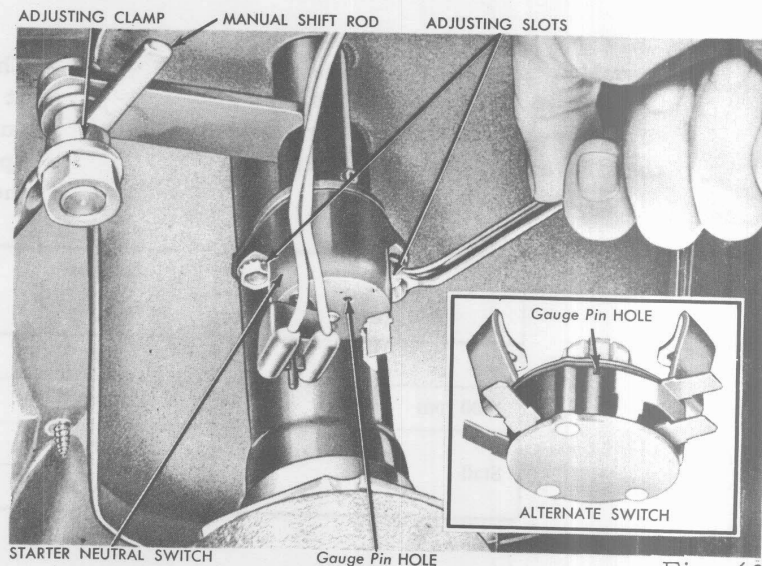

Fig. 63
- ⊗ With the engine not operating, loosen the clamp at the shift lever so that the shift rod is free to slide in the clamp (Fig. 63).
- ⊗ Loosen the neutral switch to steering column attaching screws to adjust the switch. Move the selector lever to the Neutral detent position. Position the switch in the elongated mounting holes so that a .060" gauge pin can be installed to the switch housing and into the switch plate (Fig. 63). Tighten the attaching screws with a gauge pin in place. Remove the gauge pin.